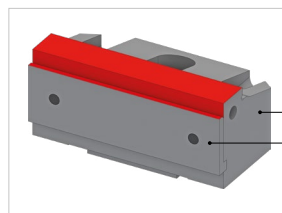

Fig. 2
3. Machine the red marked surfaces in order to produce a precise stop surface [see Fig. 2].